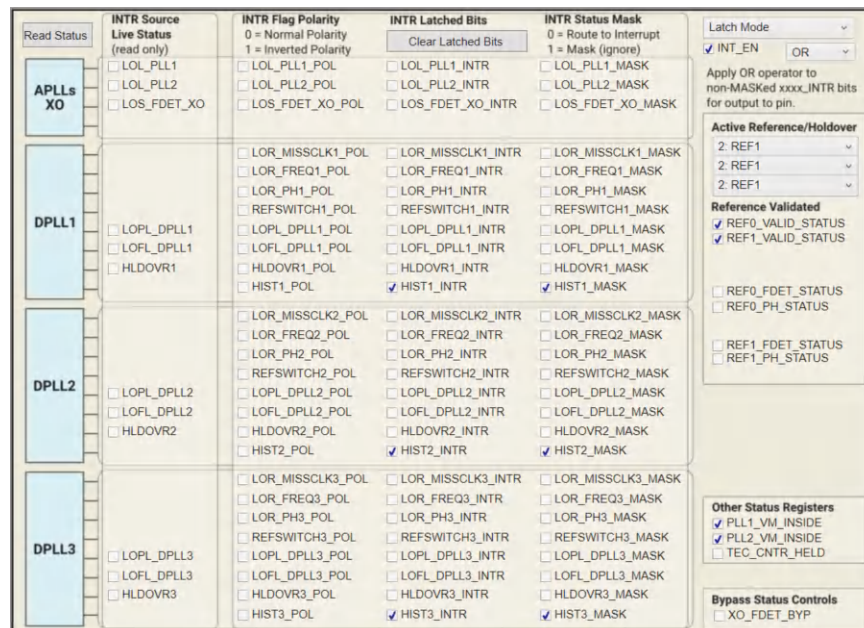

Figure 2-2. Read Status Bits
4. Check LMK5B33414 Status as shown in Figure 2-2.